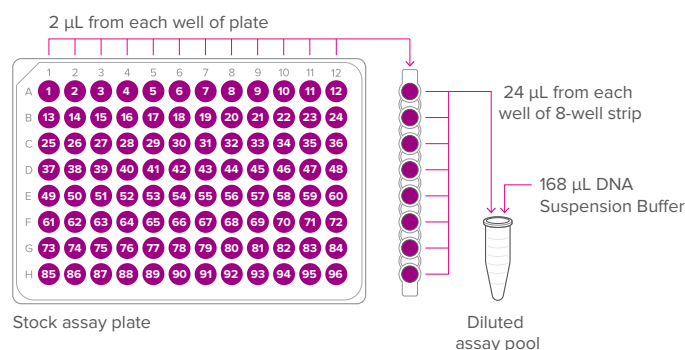

Figure 1. Example dilution of a 96-assay pool
- 2 In a DNA-free hood, dilute each pool of stock assays with DNA Suspension Buffer as calculated in Table 1. An example using the recommended volume of 2 μ L for each assay from a single 96-assay pool is shown in Figure 1.